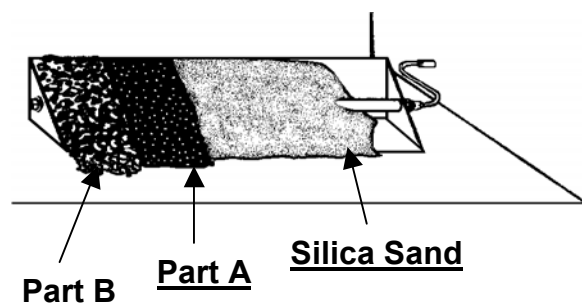

Figure 3
3. **Part B Embers** (rockwool) are placed over the sand to simulate glowing embers. For best results pinch off pieces of the Part B material the size of a dime and feather it out. Place as much as desired over the area the gas comes through. (See Figure 3.)
1. Attach the pilot generator (thermopile and pilot burner assembly) to the pilot bracket using the (2) #10-32 x 1/4" screws. **(Fig.3)**
2. Connect the pilot bracket to the back side of the burner pan using the (2) #8X1/2 screws. **(Fig.3)**
3. Connect opposite end of the pilot tubing to the pilot port on the gas valve. **(Fig.3)**